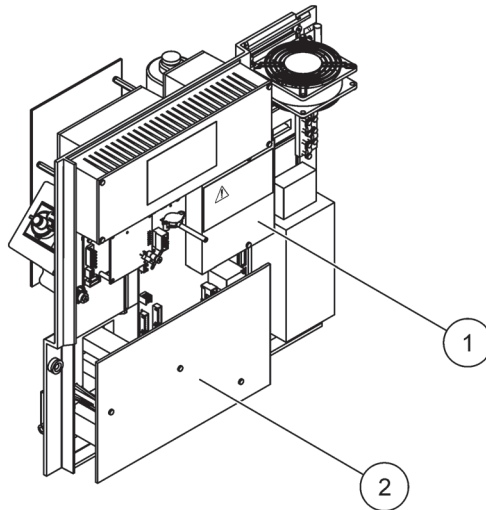

Figure 14 Remove the protective covers
See Figure 14 for protective cover removal.
3. Remove the two screws from the protective cover and remove the cover (item 1, Figure 14, page 24).
6. Remove the three screws securing the bottom panel cover. (item 2, Figure 14, page 24). Remove the panel.
3. Remove the protective cover (Figure 14, page 24).